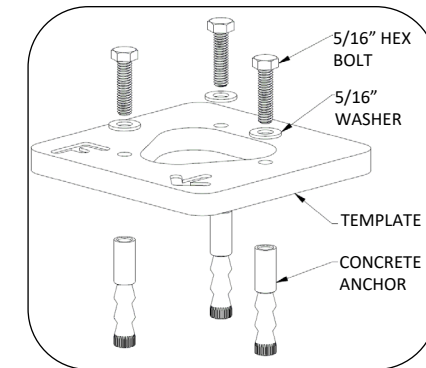

Fig. 5 – Assembly template and anchors
5. Attach anchors to base plate template as shown in Fig. 5.